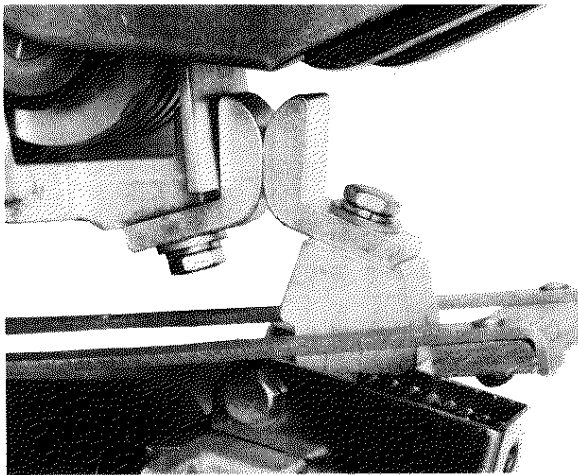

Figure 2
2. Check that the movable contact tip is against the ridge located on the auxiliary arm (13) (Fig. 2).
3. Check that the stationary contact tip is against the stationary contact support located on the blowout coil assembly (2) (Fig. 2).
4. Check that the contact tip surfaces are aligned both vertically and horizontally (Fig. 2).